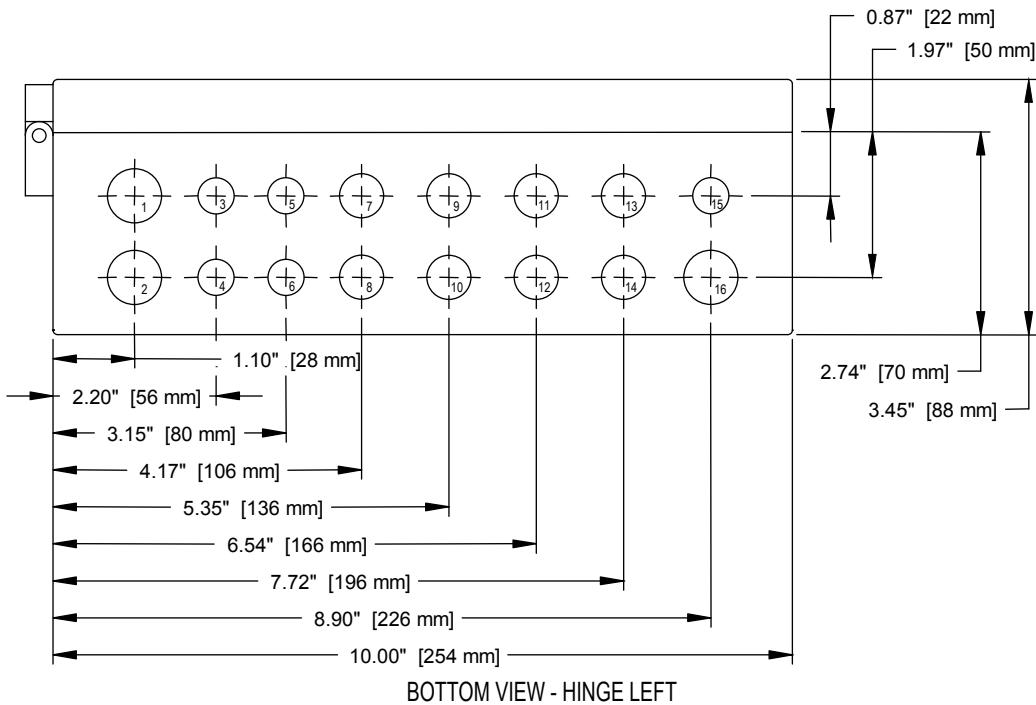

Figure 7-5
- SEE FIGURE 7-5 FOR RECOMMENDED AWG CONDUCTOR SIZES.